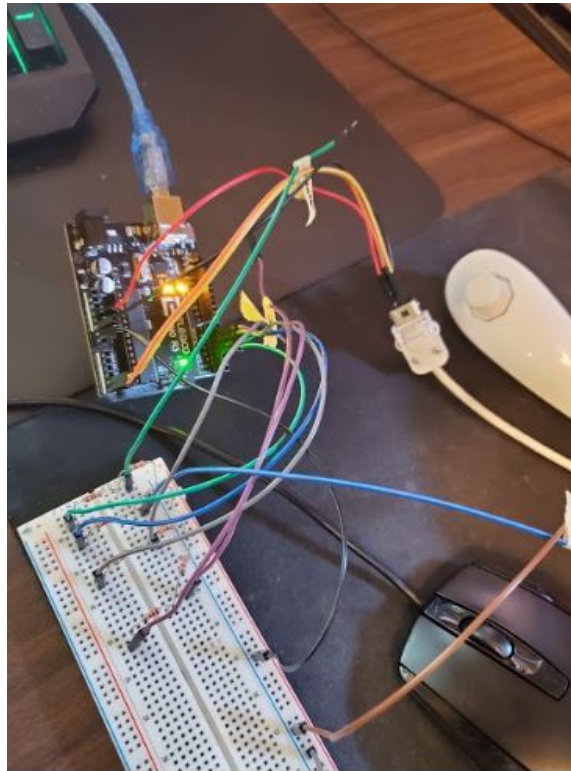

Figure 14: Milestone I Setup
it's probably something I should forgo right now, but I would like to include in my report at a later date. Additionally, I was able to modify the code to output high or low signals to input into the FPGA based on reference (4). Figure 14 shows my test setup during Milestone I: